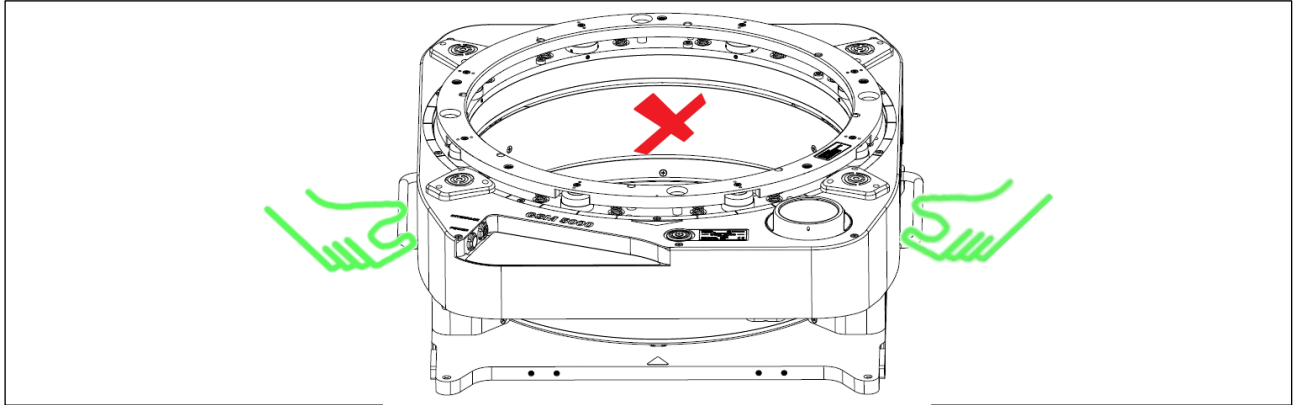

Figure 2: lifting the GSM 5000
One method of estimating the safety area is to select critical points and calculate their displacement during rotations. The selection of these points is up to the user. The Z-axis refers to the change in height, the Y-axis to the change in width and the X-axis to the change in length. The following formulas can be used to calculate the rotation of a critical point A shown in Figure 1 and Figure 2. Add appropriate safety margins to these values to ensure comprehensive protection.
Figure 2: Safety Area estimation using the rotational displacement A+ and A- of a critical Point A in Pitch axis. In this drawing, ZM = 178.5 mm, and the payload height ZR is measured relative to the screw level of the payload.
- The safety area is the minimum area which needs to be secured around the Stabilization Mount. It is the user's responsibility to do a risk analysis to define the right area size according to the circumstances as shown in Figure 1 and Figure 2 and in accordance with the used payload.
- Always use two people to lift and carry the GSM 5000. Grip the device at the handles located on both sides of the Mount (see Figure 2). Any other handling could cause irreparable damage to the device and risks serious injury.